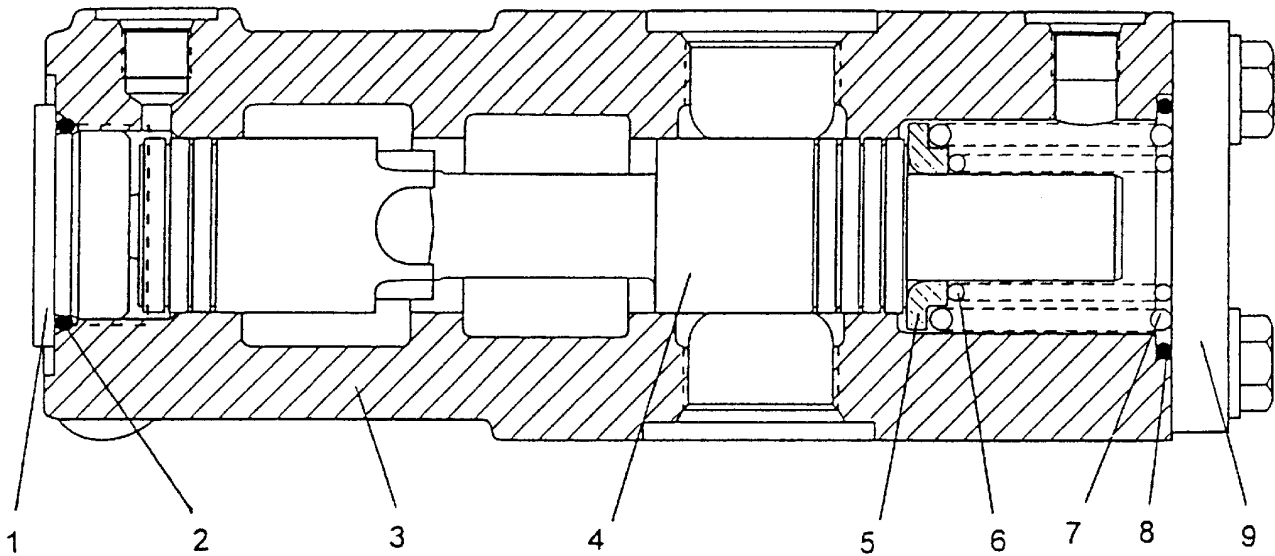

Fig. 10B.14. Cross Section View of Quick Drop Valve
20. REMOVAL AND INSTALLATION (Refer to Figs. 10B.15 and 10B.16)